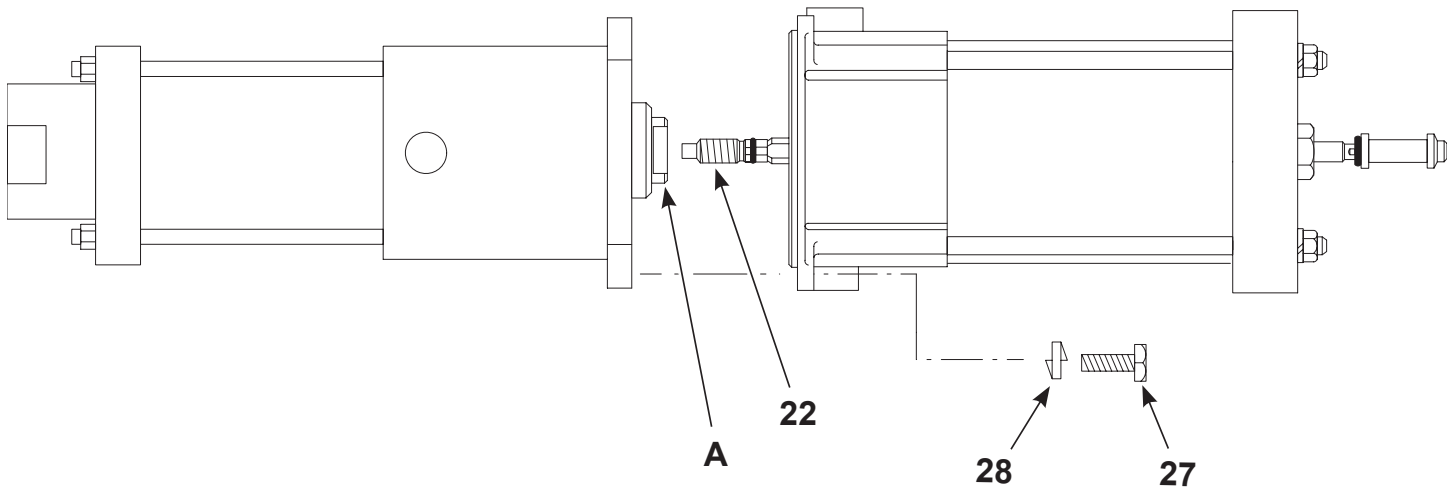

Figure 6-4 Separating the Air Motor and Hydraulic Section
1. See Figure 6-4. Remove the four screws (27) and lock washers (28).
3. Use two wrenches to unscrew the connecting rod (22) from the plunger (A).
See Figure 6-4 on page 6-14.